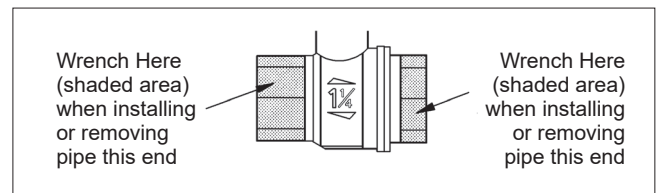

Figure 1. Screwed End Valve
1. Use standard piping practices when installing valves with threaded parts. When tightening the valve to the pipe, be sure to apply the wrench to the valve end closest to the pipe as shown in (Figure 1). Screwed-end valves have NPT threads, (not DrySeal type). To insure a leaktight joint, liberal use of a commercial pipe-joint compound is necessary. (Figure 451A) valves may be installed for flow in either direction, however, it is recommended that the valve be installed with the body cap facing upstream.